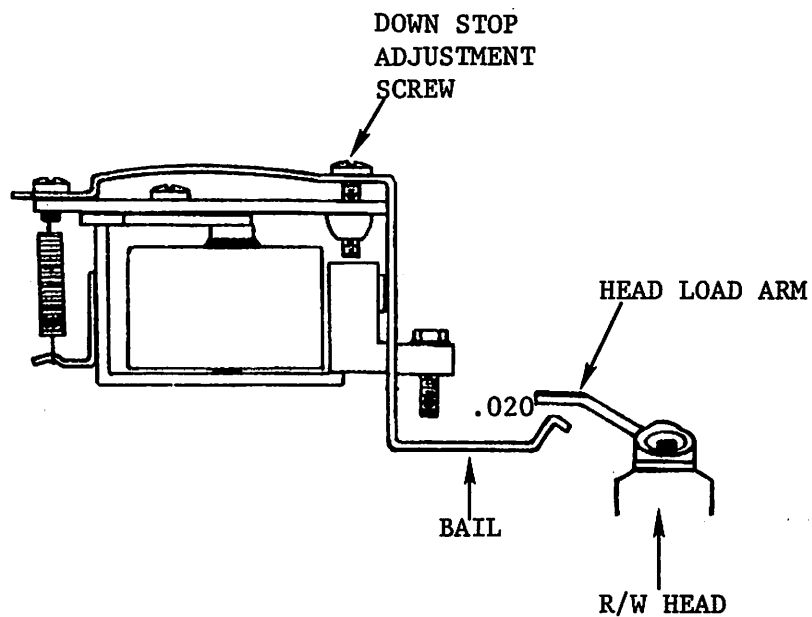

FIGURE 6
- f. Adjust down stop on actuator so there is  $.020 \pm .010$  clearance between head load bail and head load arm (Ref. Figure 6).